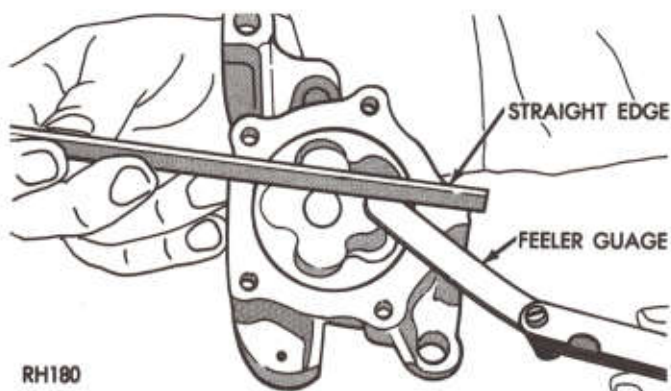

Fig. 62—Measuring Clearance Over Rotors
(7) Place a straight edge across the face of the pump, between bolt holes. If a feeler gauge of .004 inch (.102mm) or more can be inserted between rotors and the straight edge, replace pump assembly (Fig. 62).
(8) Inspect oil pressure relief valve plunger for scoring and free operation in its bore. Small marks may be removed with 400-grit wet or dry sandpaper.
(9) The relief valve spring has a free length of approximately 1.95 inches (49.5mm) and should test between 191.5 and 20.5 pounds when compressed to